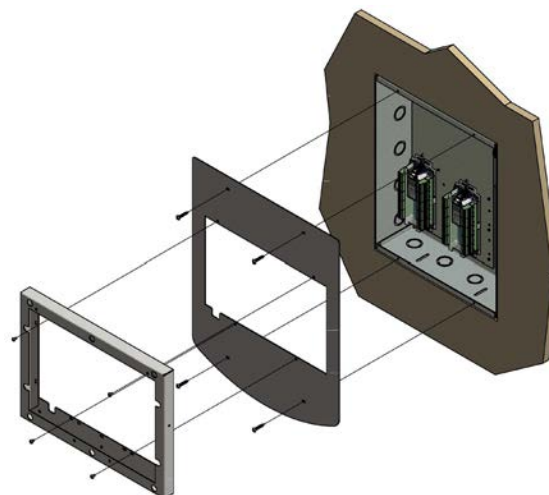

Figure 222: TotalAlert Infinity™ Single Trim Plate Installation
1. Remove the trim ring from the standard trim plate and install the corresponding trim plate from retrofit option kit (4107220616) (Figures 222 & 223). Screws are provided in the option kit for attaching the trim ring to the trim plate. TotalAlert¹ Double also requires switching over the door lock set to the new trim plate.